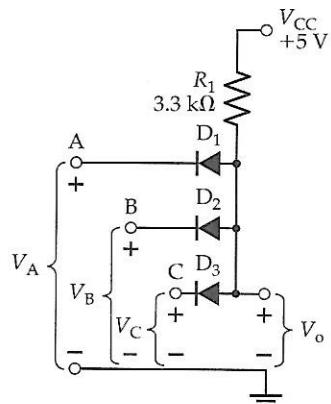

Figure 3-60 Circuit of a three-input diode AND gate. A high output occurs only when high inputs are present at input A, AND input B, AND input C.
Figure 3-60 shows the circuit diagram of a diode AND gate. It is seen that the diode anodes are connected to a 5 V supply (V_{CC}) via resistor R_1 . The circuit has a single output terminal at the diode anodes and three input terminals at the device cathodes. (An AND gate could have any number of inputs from 2 up to perhaps 50.)
For the AND gate circuit in Fig. 3-60, determine each diode forward current level: (a) when all three inputs are *low*; (b) when only input A is *high*; (c) when inputs A and B are both *high* and C is *low*.
- 3-12.1 The diodes in the AND gate in Fig. 3-60 are each to have a 2 mA maximum forward current. Calculate the required resistance for R_1 .